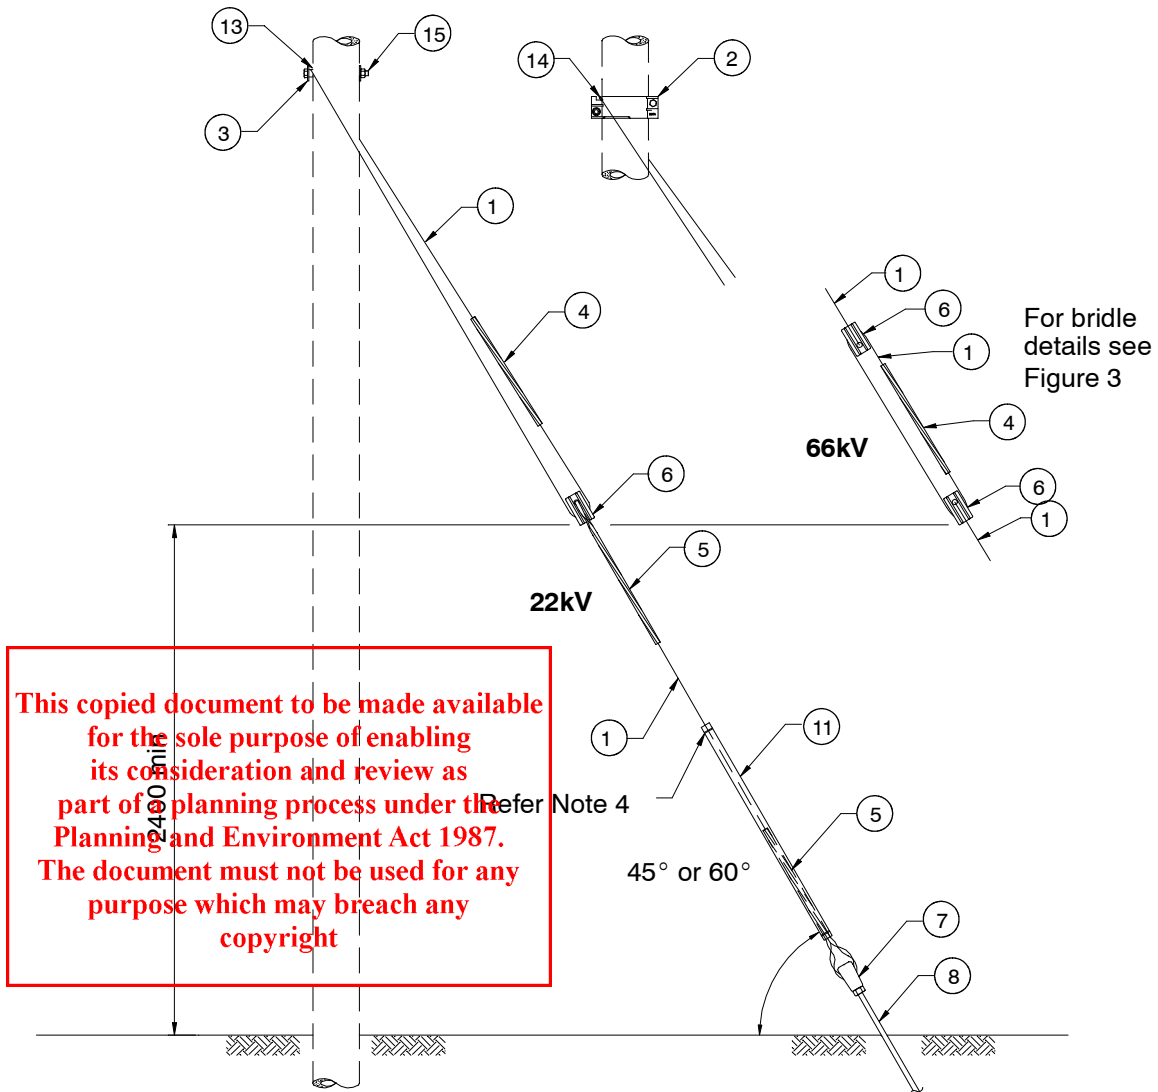

Figure 1 - No.5 Ground Stay Assembly - Concrete Pole
10. Two locknuts are provided with anchor rods. Locknuts must be installed as shown in Figure 1 and Figure 2.